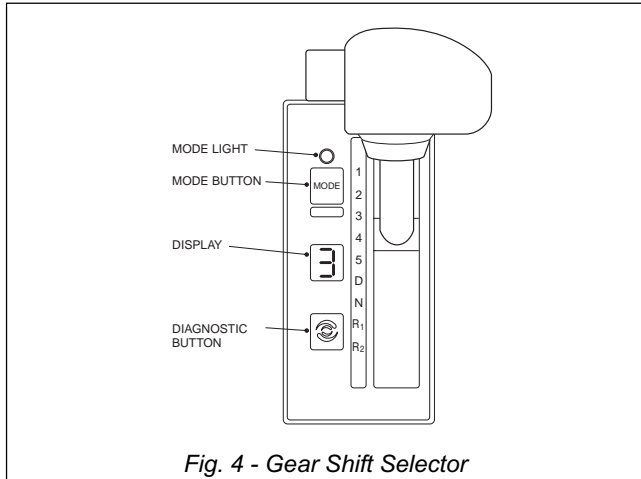

Fig. 4 - Gear Shift Selector
**Gear Shift Selector** - The shift selector is a remote mounted lever type (Fig. 4). The gear shift selector is connected to the ECU by a wiring harness. The shift lever has 6 forward ranges and 2 reverse ranges, as well as a neutral position. The shift selector has a